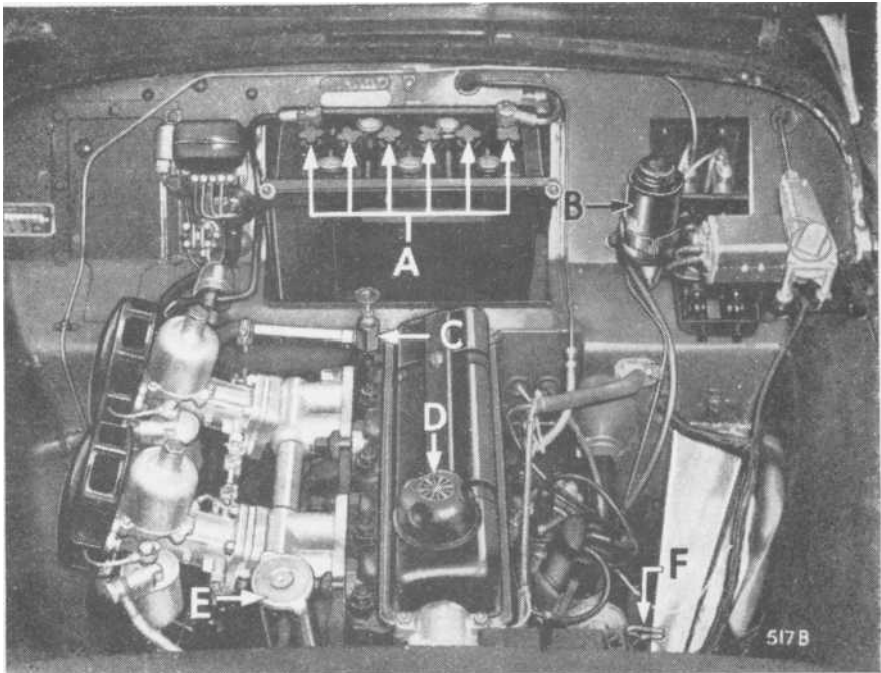

Fig. 5. View under bonnet.
Every 250 miles check the oil level when the engine is cold, and top up if necessary. Withdraw dipstick (F) (Fig. 5) and wipe clean, then insert and push fully home before withdrawing for reading. The lower mark on the dipstick indicates that 4 pints (Imperial) of oil will be required for topping up. The regular addition of oil not only maintains the correct level, but also tends to keep up the quality of the lubricant. Replenishment is via the cap (D) which must be lifted straight off.
Maintain the electrolyte level in the battery **level** with the top of the separators. **Overfilling will cause electrolyte spillage which will subsequently attack the surrounding metal panels.** Use only distilled water when replenishing. Keep the filler plugs (A) (Fig. 5) screwed tight to prevent leakage. **Never use a naked light when checking the electrolyte level.**
Taps are provided in the bottom tank of the radiator and at the rear of the cylinder block on the right-hand side. As the cooling system is pressurised it will be necessary, when draining, to remove the radiator cap (E) (Fig. 5).
If a heater is fitted, ensure that the tap (C) (Fig. 5) is open before draining.